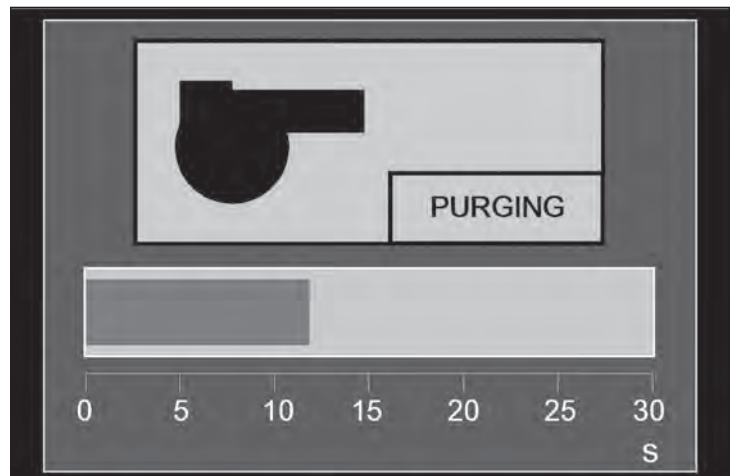

Figure 25
- Purging – Removes any vapor of fumes from the combustion chamber. See Figure 25.